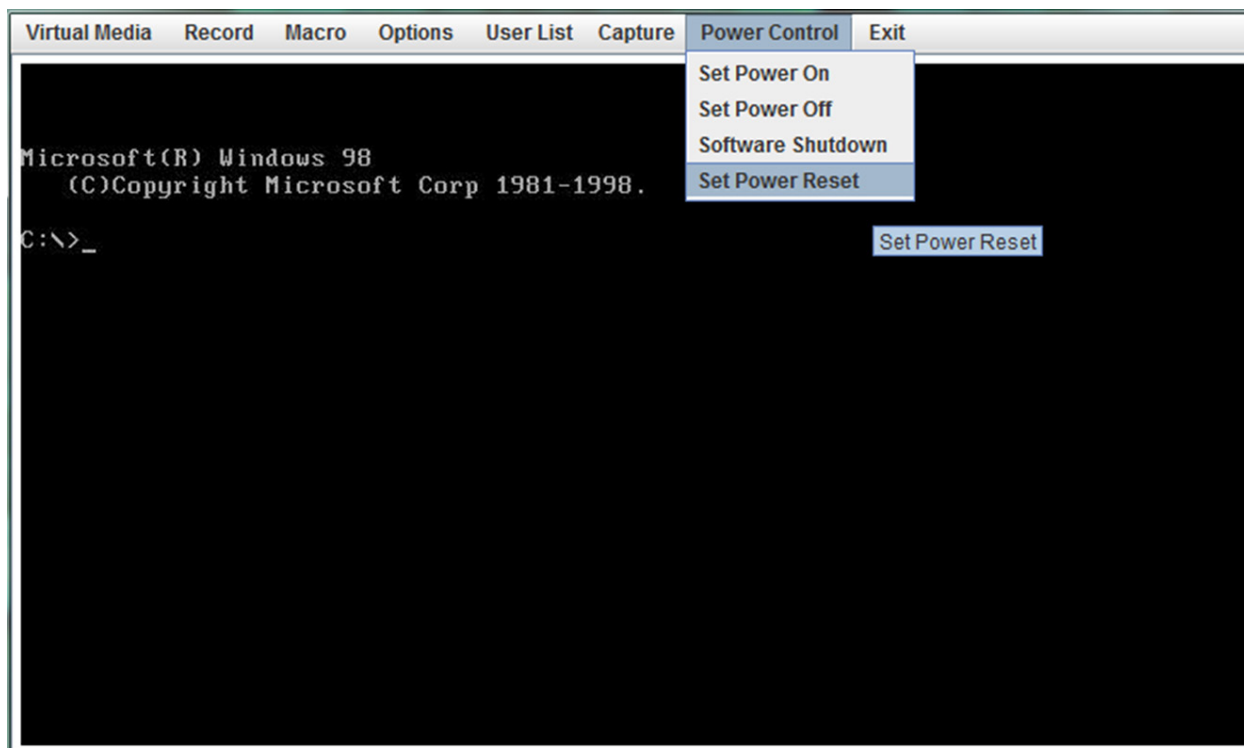

Figure A-10. Selecting Set Power Reset
8. Reboot the SuperBlade module by selecting the Power Control -> Set Power Reset menu option from the KVM Console window. If the MicroBlade is not powered on yet, please select Set Power On from the menu (Figure A-10).